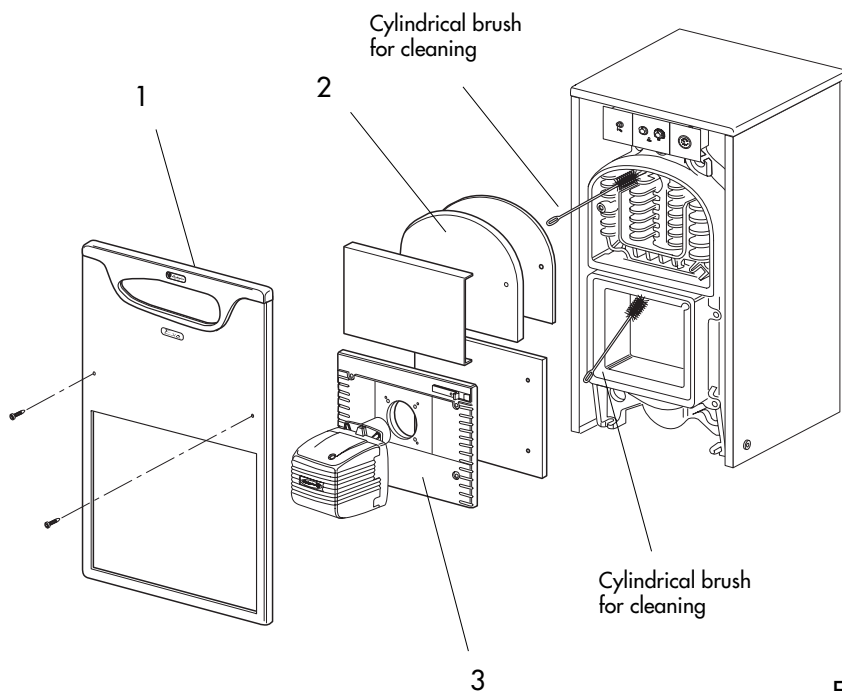

Fig. 8
- Remove the panels 1, 2 and 3 (Fig. 8);